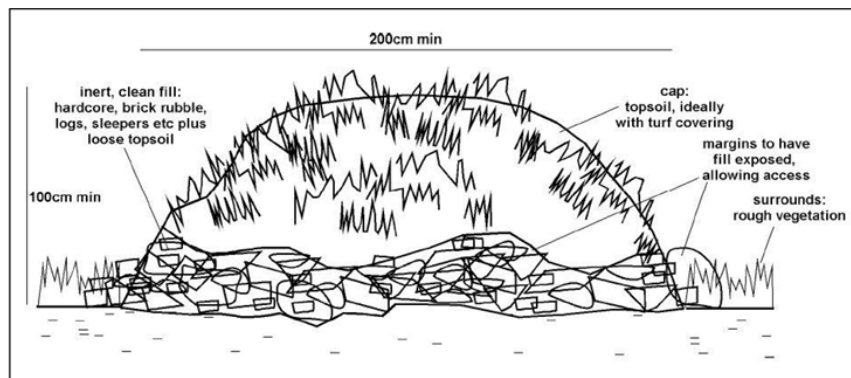

Figure 6.1 – Outline spec of a typical new GCN hibernaculum
- 6.11 Potential locations of the proposed refugia's have been supplied within **Appendix III** of this report, with four refugia piles recommended to offset any loss of refuge potential within the application site during the site setup works. All refuge piles will be constructed to NE mitigation guideline with a minimum of 75% inert materials. The design of the hibernacula will follow that set out in the Great Crested Newt Mitigation Guidelines (English Nature, 2001) and will include the use of brick rubble, logs and loose topsoil, with a covering of turf. The hibernacula will each be approximately 2-metres in diameter, 4-metres in length and 1-metre in height. See **Figure 6.1** for visual context.